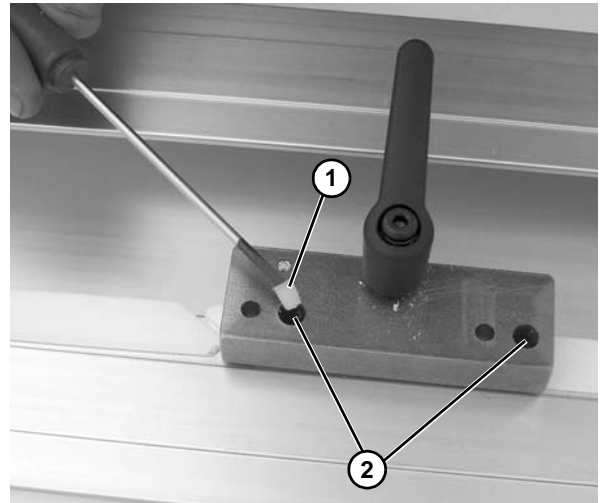

Figure 43
5. Pressing down firmly, install nylon set screws (**Figure 43, item 1**) through larger guide holes (**Figure 43, item 2**) into conveyor frame.